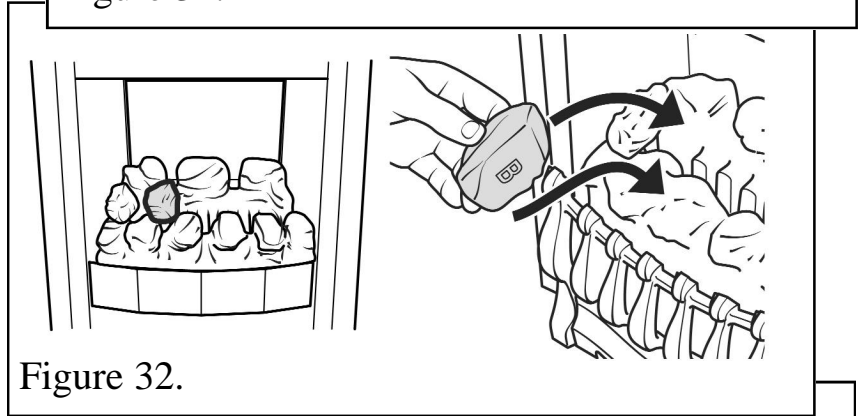

Figure 32.
4. Place a type “B” coal between the front and rear base coals as shown in figure 32. The letter “B” should be upright.